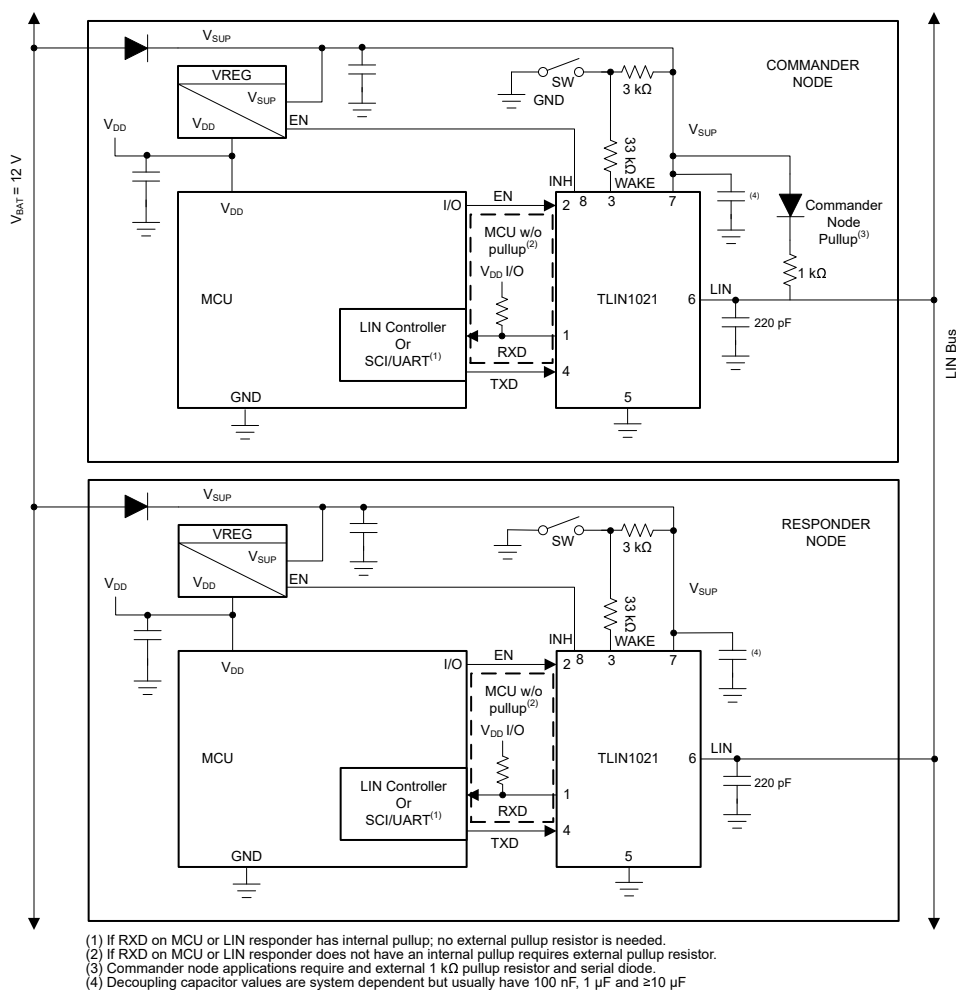

图 10-1. Typical LIN Bus
The device integrates a 45 k Ω pull-up resistor and series diode for responder applications. For commander applications, an external 1 k Ω pull-up resistor with series blocking diode can be used. 图 10-1 shows the device being used in both commander and responder applications.
- **Pin 2 (EN):** EN is an input pin that is used to place the device in low-power sleep mode. If this feature is not used the pin should be connected to the supply voltage for the controller through a series resistor using a pull-up value between 1 k Ω and 10 k Ω . Additionally, a series resistor may be placed on the pin to limit current on the digital lines in the case of an over voltage fault.
- **Pin 6 (LIN):** The LIN pin connects to the TLIN1021-Q1 to the LIN bus. For responder applications a 220 pF capacitor to ground is implemented. For commander applications an additional series resistor and blocking diode should be placed between the LIN pin and the V_{SUP} pin, see 图 10-1.